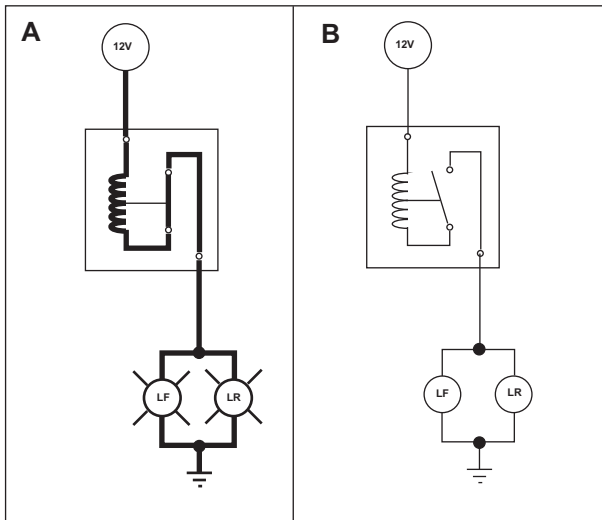

FIGURE 3
2) TURN SIGNAL FLASHER: The resistance of the heat element in a turn signal flasher is sized very carefully to the specified bulb wattage for that particular car, and is very low, less than 1/2 ohm. See **figure 1B**. If the correct bulbs are used, the current through the element is exactly the right amount to cause the bimetal strip to bend at just the right rate for the flasher. Lower wattage causes the strip to bend too slow, and higher wattage bulbs cause the strip to bend too fast. Just as in the hazard flasher, the current through the heat element is the same current as through the bulbs. The resistance of the element is so low that it offers minimal additional resistance over that provided from the bulbs -- the bulbs light almost as bright as if the element were not there. As shown in figure 3, below, the flasher contacts are wired in series with the bulbs. When the strip bends, the contacts on the strip open, cutting off current flow to the bulbs.